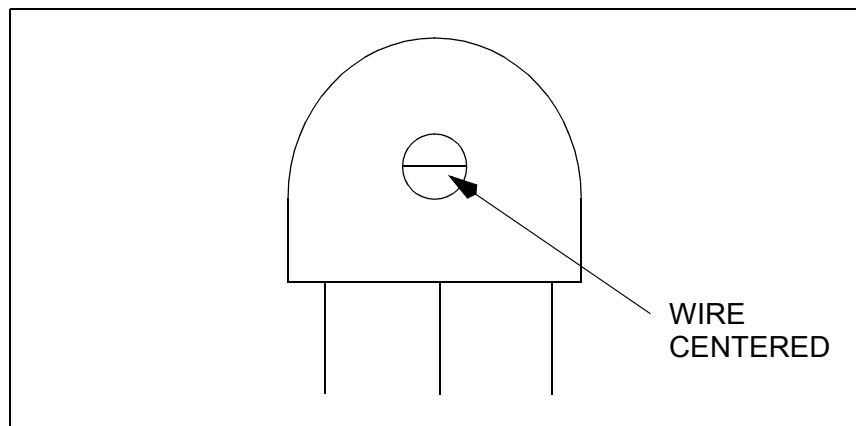

Figure 8-11. Ion Source Filament (Picture enlarged to show detail.)
- a. Verify that the filament wire is centered in the electron lens hole. See Figure 8-11 for a view of a centered wire. Hold down the ion source block by using your thumb and index finger to grasp its flat sides.